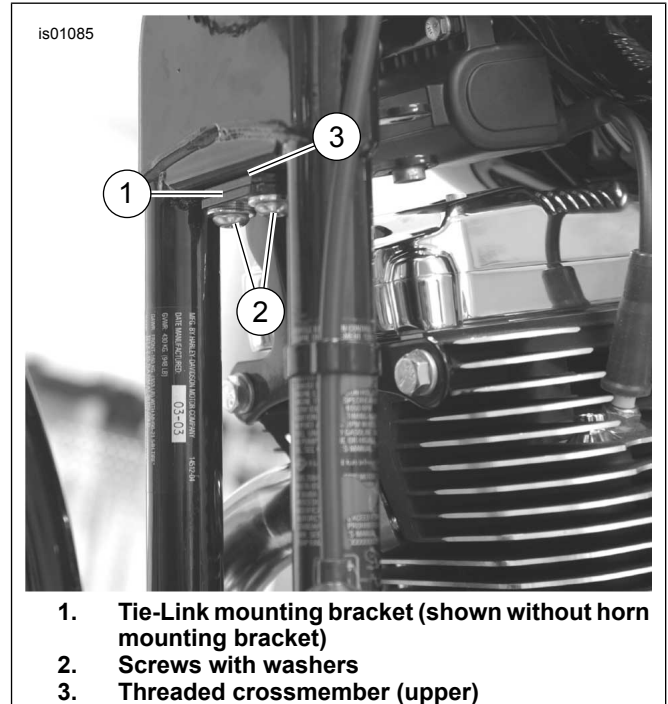

Figure 1. Remove upper Tie-Link to Frame Hardware (XL 1200 Custom Shown)
2. See Figure 1. Remove the two screws with washers (2) securing the upper tie-link assembly (1) and horn bracket if present to the upper front frame crossmember (3). Leave tie-link assembly in position. Discard screws and washers.
3. See Table 1. Obtain two 3/8-16 X 1-1/2 inch screws (1), two flat washers (3) and engine guard from kit (4).